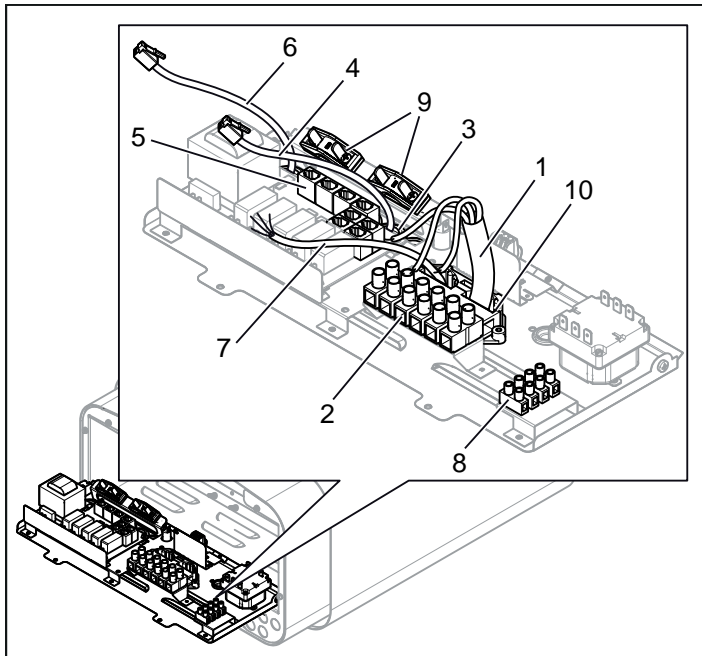
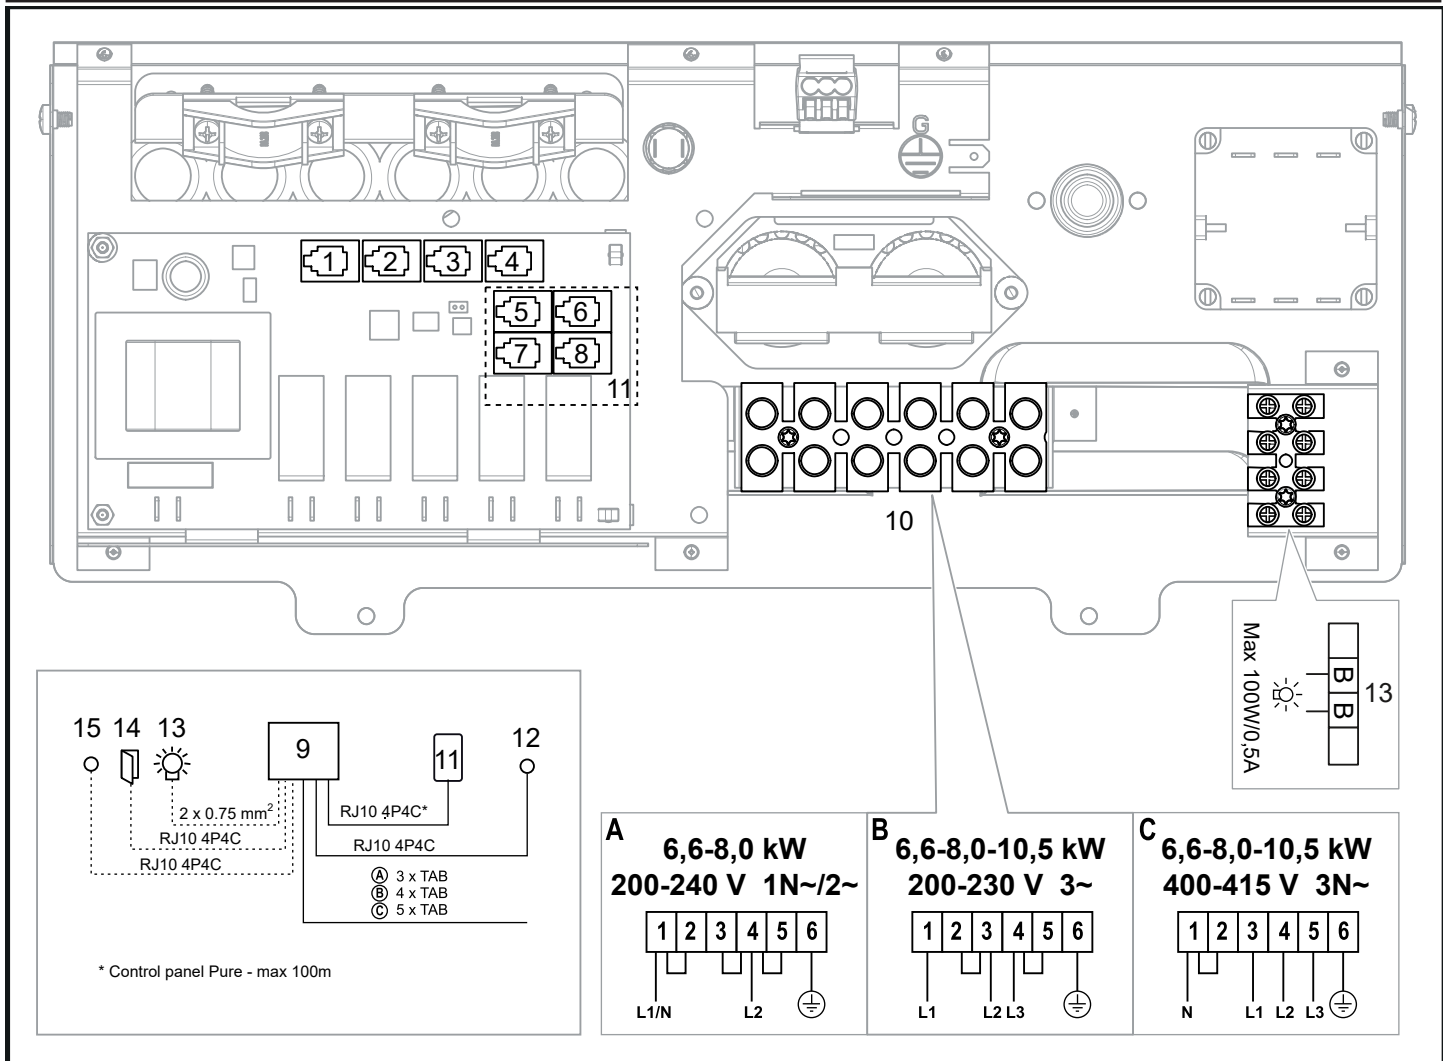

Figure 9: Circuit board
Figure 17: Wiring diagram
3. Connect the electrical cable (1) to the terminal (2) (see Figure 9) according to the wiring diagram (see the Connection/wiring diagram section, page 11).
4. Run the cables for the control panel and the temperature sensor through the cable grommets (3). Connect the control panel cable (4) to one of the four RS485 contacts (positions 5-8) (see Figure 9) according to the wiring diagram (see the Connection/wiring diagram section).
5. Connect the sensor cable (6) to the NTC contact on the circuit board (position 1) (5) (see the Connection/wiring diagram section) according to the wiring diagram (see the Connection/wiring diagram section, page 11).
6. Connect the light cable (if relevant) (7), see Figure 9, to the terminal (8) according to the wiring diagram Figure 17.
Contact Tylö Customer Service before connecting to voltages or numbers of phases that are not listed in the wiring diagram Figure 17.